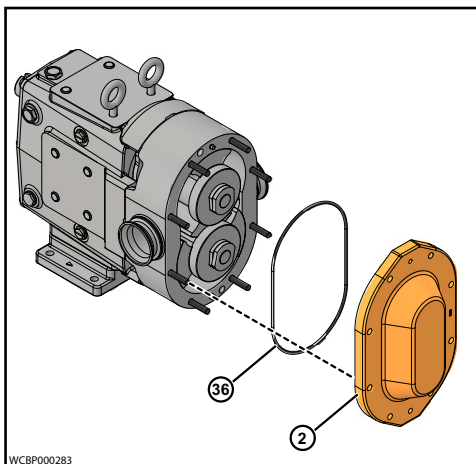

Figure 32 - Remove O-Ring
2. Remove the cover (2). If it is stuck, loosen it with a soft hammer. Remove and discard the cover O-ring (36) (Figure 32).